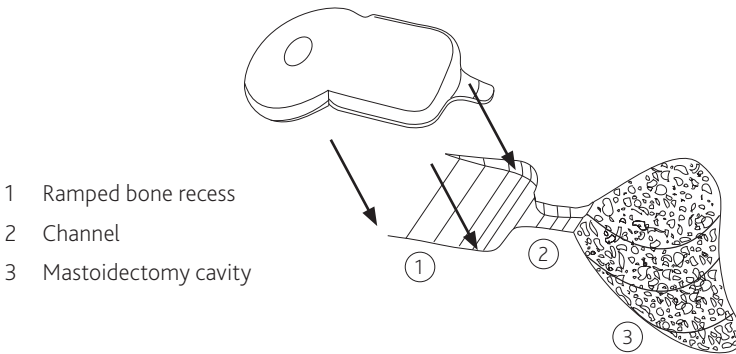

Figure 15: Ramped bone recess, electrode channel and mastoidectomy
5. Drill a channel to connect the bone recess and mastoid cavity (see Figure 15). The channel will help protect the electrode against trauma.